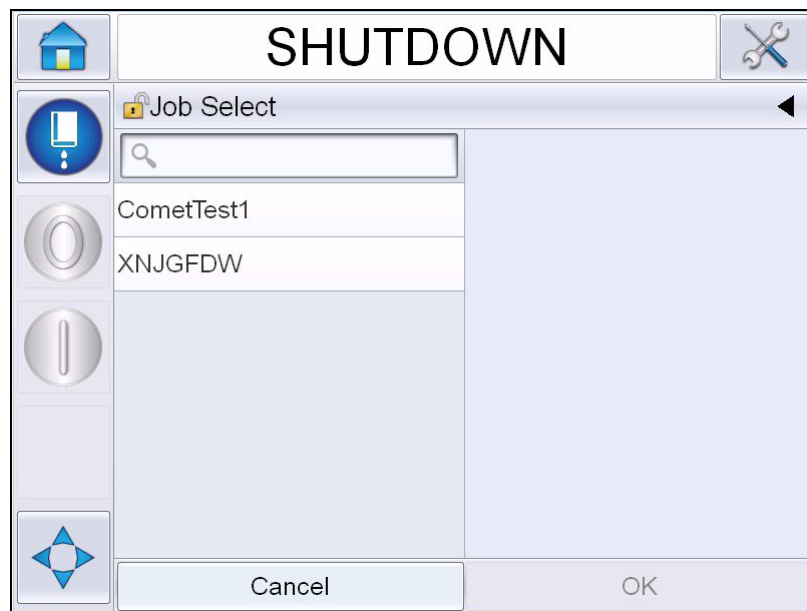

Figure 4-27: Job Select
- 2 A list of available messages appear (see Figure 4-27).